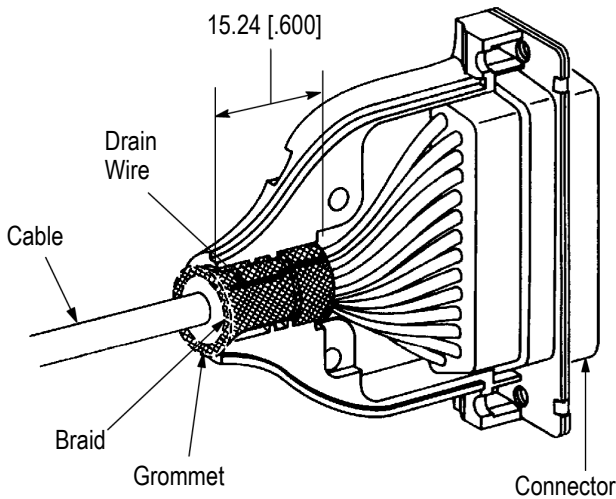

Figure 13
7. GROMMET ASSEMBLY (Figure 12 and Figure 13)